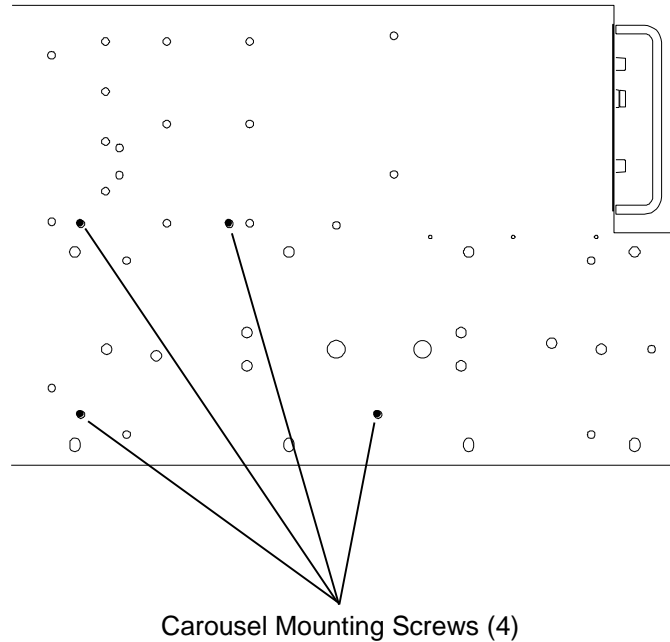

Figure 7-8 Carousel Mounting Screws Located on the Bottom of the RLS
7. There are four Carousel mounting-screws located on the bottom of the library. Using a No. 2 Phillips screwdriver, remove the screws as shown in Figure 7-8. If the library is on its side, hold the Carousel with one hand while removing the last screw to prevent it from falling and getting damaged.
3. Using a No. 2 Phillips screwdriver, replace the four Carousel mounting flat-head screws that were removed in Section 7.8.1. See Figure 7-8.